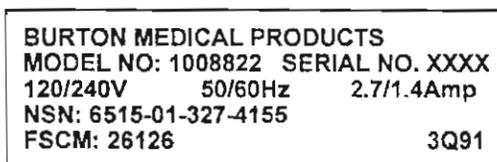

Figure 1-8. Manufacturer data plate.
(1) The endoscopic instrument light manufacturer data plate (located on the top of the endoscopic instrument light) is depicted in figure 1-8.